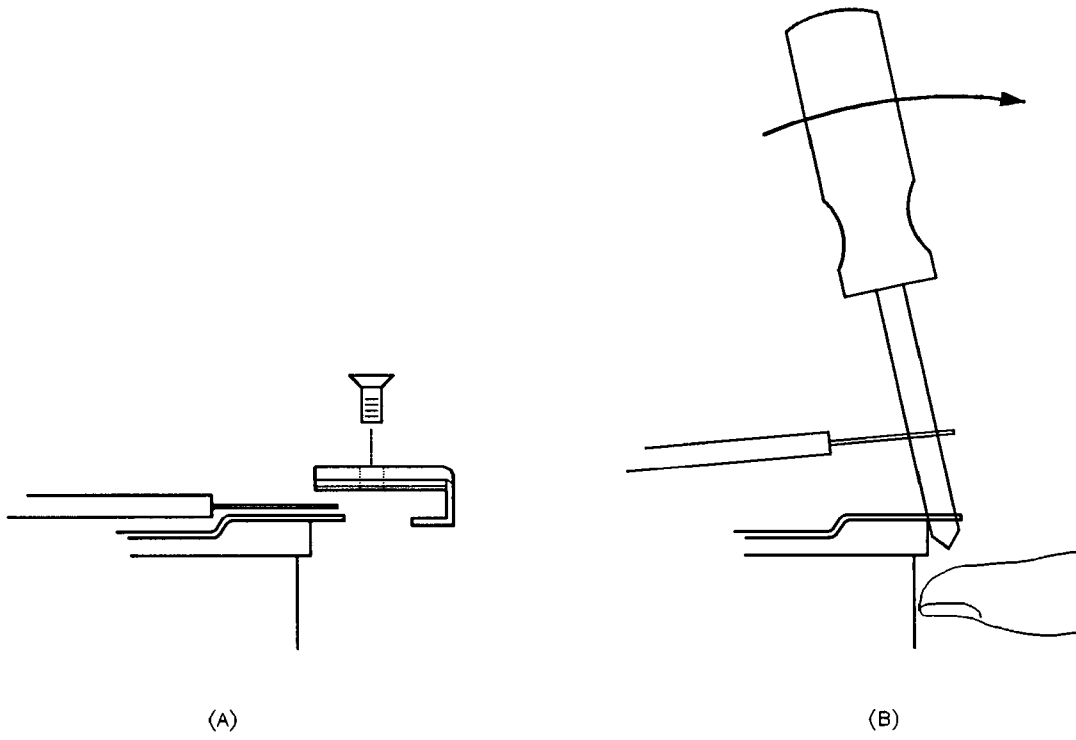

Figure 6-7. Removing the Top Cover
2. Set both the screw and the plastic end-piece aside (Figure 6-7(A)).
3. Place just the tip of the screwdriver down through the hole in the instrument handle (Figure 6-7(B)).